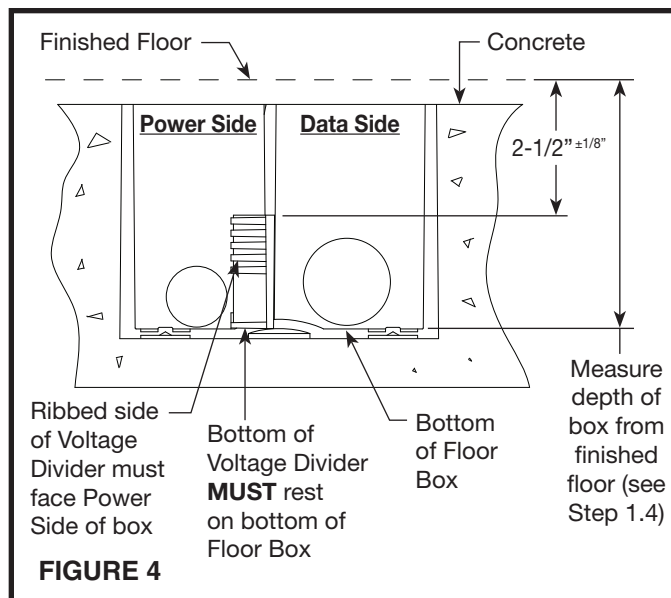

FIGURE 4
- 1.4 Measure depth of floor box from finished floor to bottom of the box. Use a saw to cut the voltage divider so that when it is inserted in the floor box, the top of the divider is  $2\text{--}1/2" \pm 1/8"$  below the finished floor surface (see Figures 4 and 5).
- 1.5 Place the voltage divider in box. The ribbed side of the divider must face the power side. The letters "HP" will be visible in bottom of the box when divider is in correct orientation (see Figures 4 and 6).